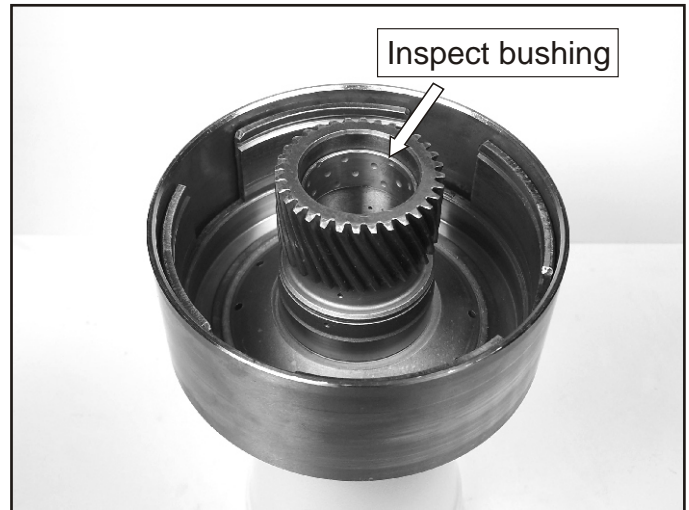

Figure 140
87. Inspect the bushing in the front of the C3 drum and replace as necessary. See Figure 140.